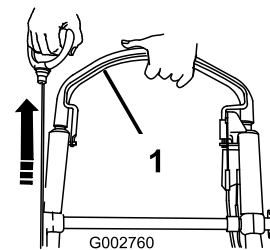

Figure 22
4. Hold the blade control bar against the handle and immediately start the engine using the recoil starter (Figure 22).